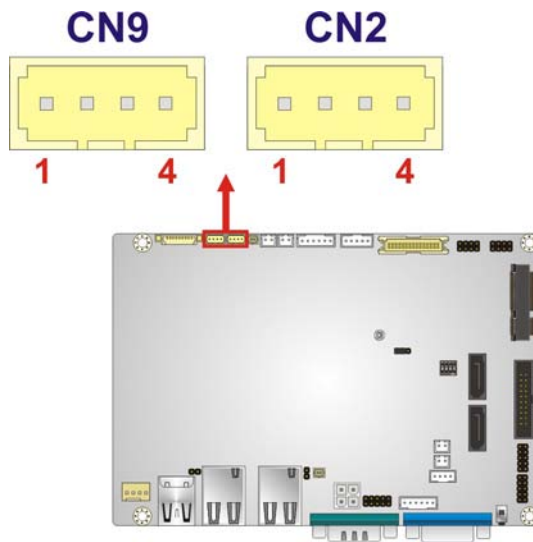

Figure 3-25: SMBUS Connectors Location
- CN Location: See **Figure 3-25**